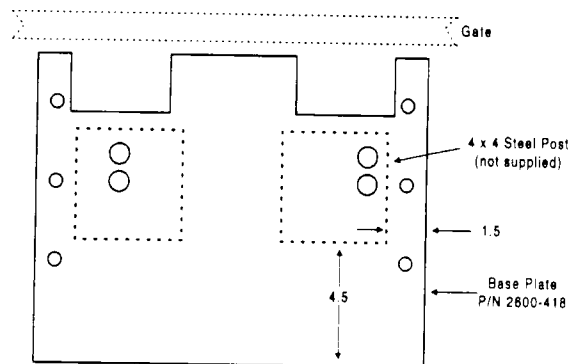

FIGURE 1.5.2A
1. Post mounting the operator requires the use of an operator base plate (P/N 2600-418) and two (2) 4 X 4 steel post (not supplied) welded to the base plate as shown in figure 1.5.2A.